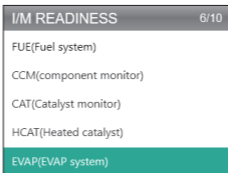

Figure 9.1.5
5. Select I/M READINESS (See Figure 9.1.5) and press [OK] to view the full meaning of the abbreviated phrases that describe the monitors and components.